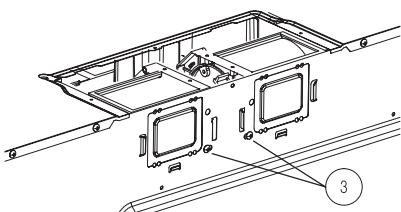

Figure 15
- Secure the Case Blow Fan Top, the blower motor and cover to the microwave oven with the screws (1, 2 and 3) from Steps 1 and 2. See Figure 15.